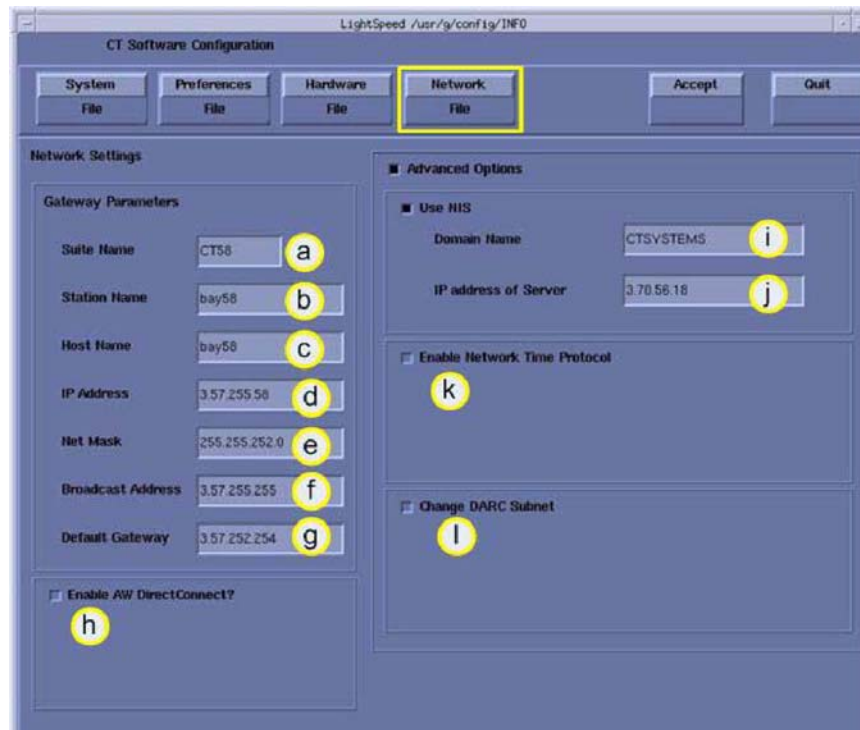

Figure 8-3 Networks Settings Screen
- 1.) Select the **NETWORK** button to display the Network Settings screen as shown in Figure 8-3.